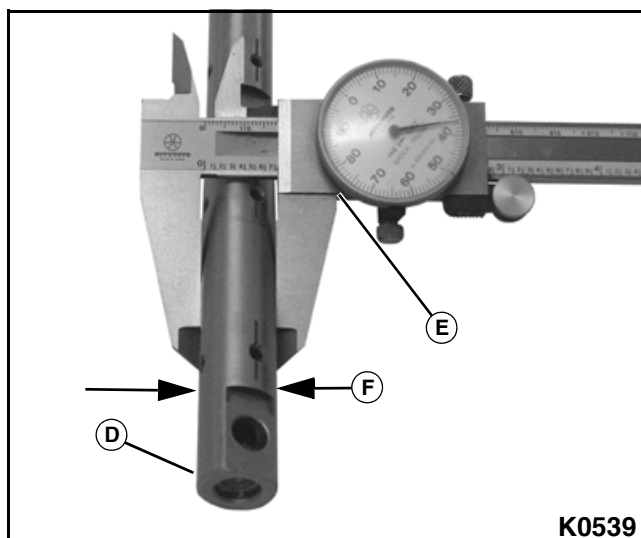

Figure 3-130: Measuring the Rocker Arm Shaft Outside Diameter
4. Measure the rocker arm shaft (D) outside diameter (F) using a caliper (E). Two measurements should be taken, the second at 90° from the first measurement. Use the larger measurement for calculations. **See Figure 3-130.**